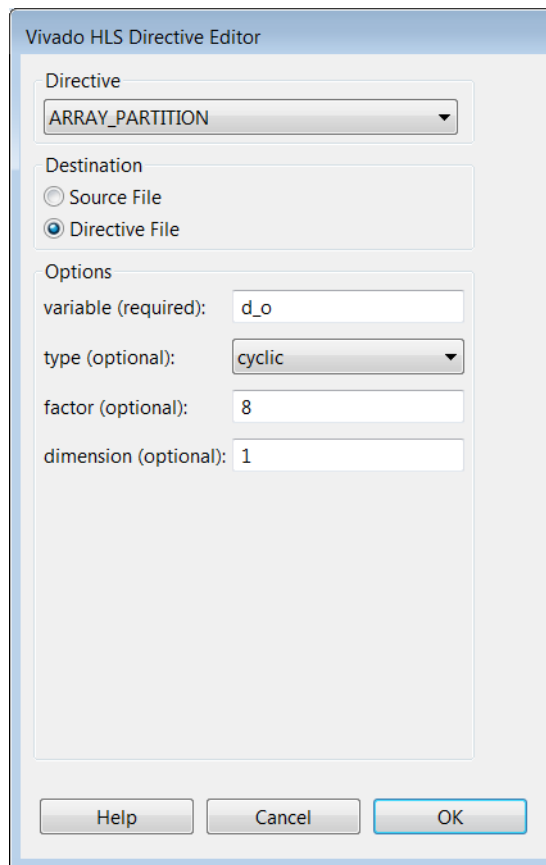

Figure 4-31: Directives Editor for Cyclic Partitioning
- d. With the Directives Editor dialog box filled in as shown in Figure 4-31, click **OK**.